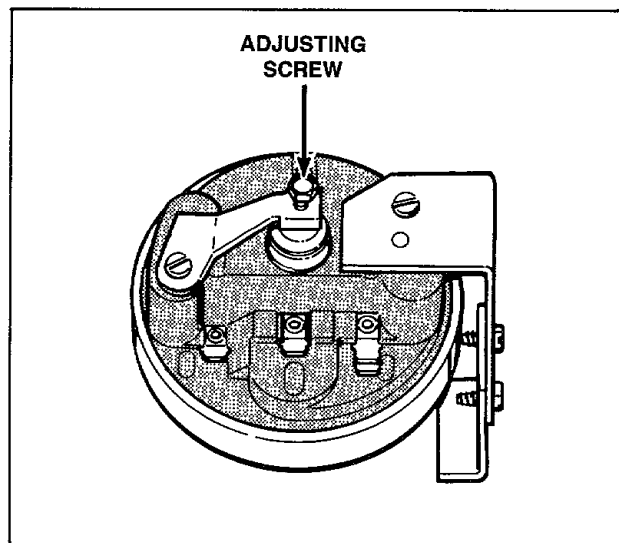

Figure 59
38. PRESSURE SWITCH (Refer to Figure 59)